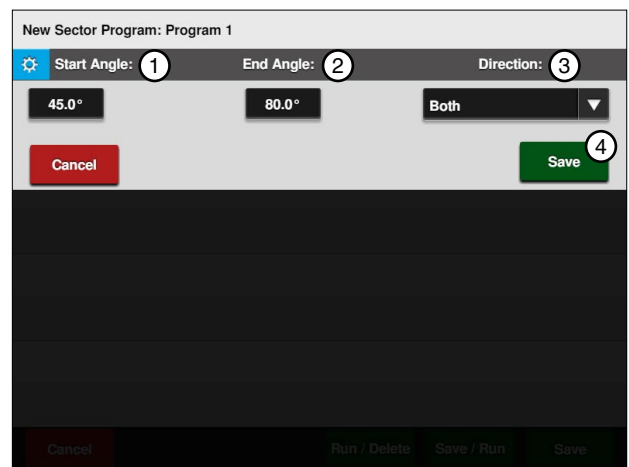

Figure 149-3 1. Start Angle 2. End Angle 3. Direction 4. Save
3. Select the **Start Angle** field. Refer to Figure 149-3.